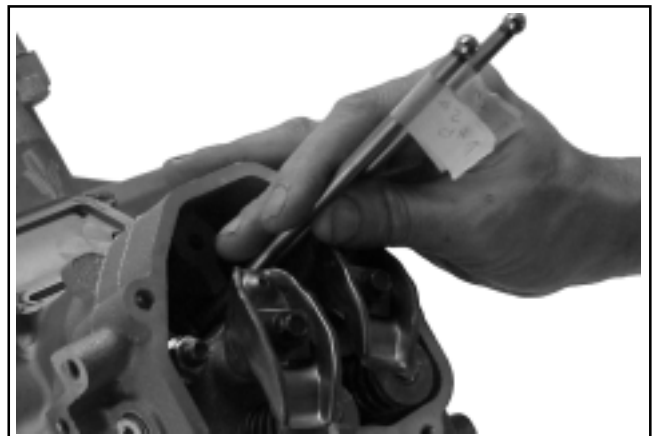

Figure 9-64. Removing Push Rods.
2. Remove and mark the location of the push rods (intake or exhaust) and the respective cylinder (1 or 2). The push rods should always be reinstalled in their original locations. See Figure 9-64.